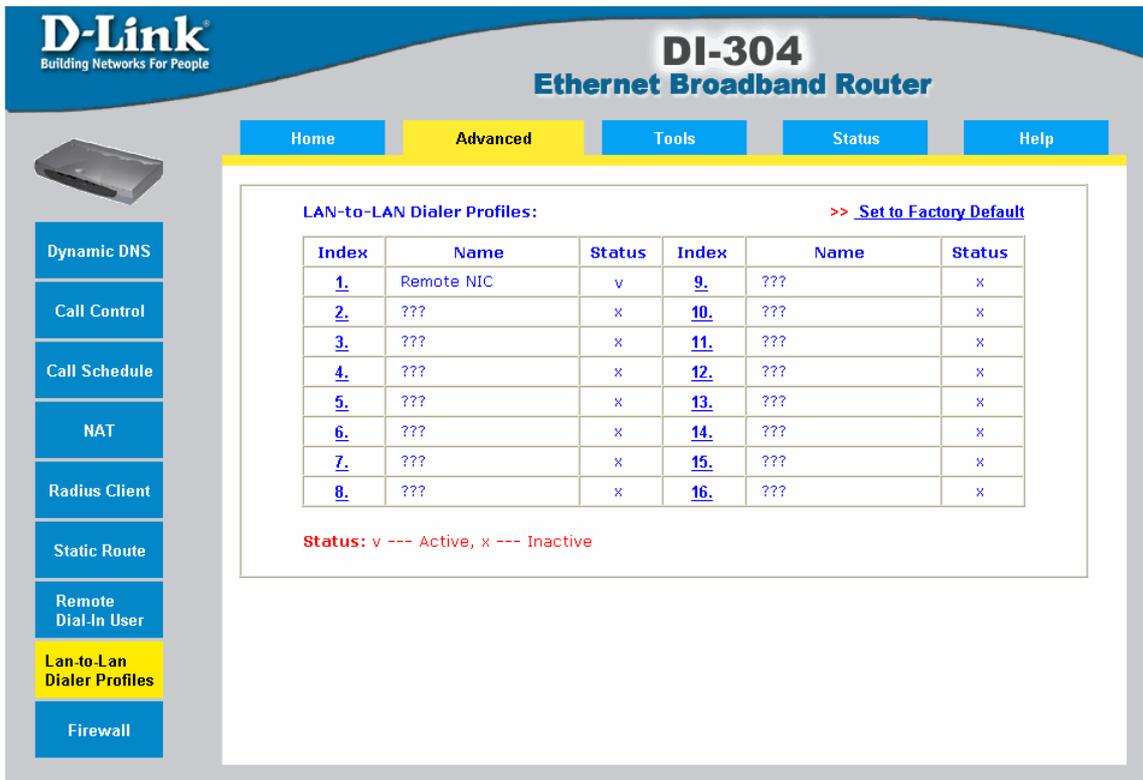
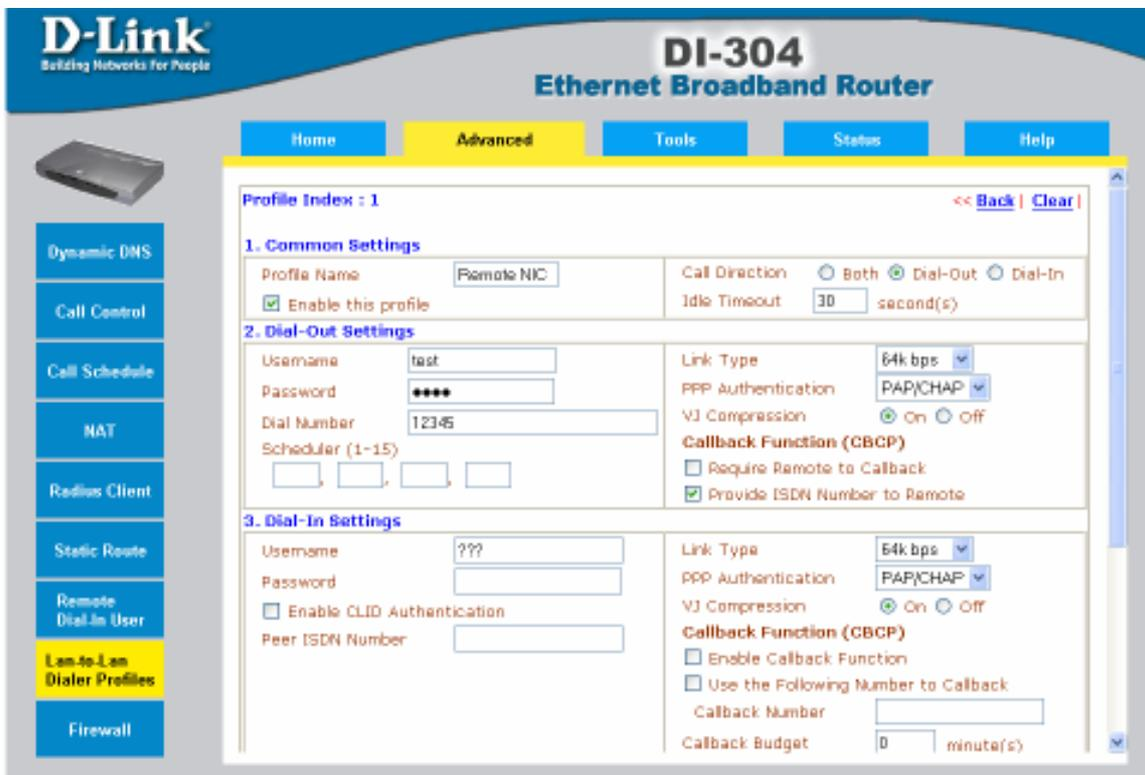
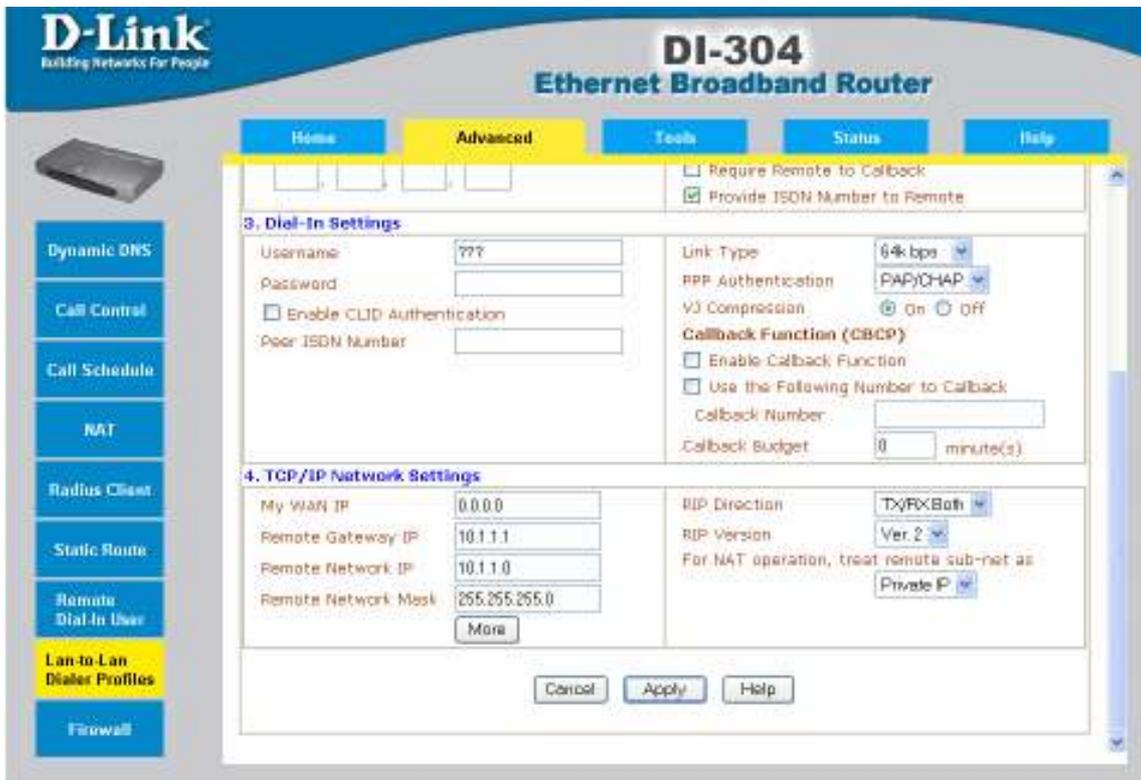

Figure 26: Enabling Lan-to-Lan Dialer Profiles
Figure 27: LAN-to-LAN Profile of ISDN Router 1 (1)
Figure 28: LAN-to-LAN Profile of ISDN Router 1 (2)
3. To provide automatic dial in functionality, a LAN-to-LAN dialer profile has to be configured (see Figure 26, Figure 27, Figure 28). The first step is to create a new LAN-to-LAN profile. In the next configuration screen, the profile has to be enabled. Additional configuration is needed for the remote telephone number to dial and a user name and password for the access of the remote ISDN router. To allow automatic termination of ISDN link, an idle timeout can be set. If required, additional settings like the Link Type can be made.
- For automatic dial in support, the IP address range of the remote network must be configured (see Figure 28). The remote Gateway IP and remote network IP are required. It is possible to define multiple LAN-to-LAN profiles and connect multiple remote IP networks. In that case, the remote network IP ranges have to be different in order to allow correct routing and dial in access to the remote networks.